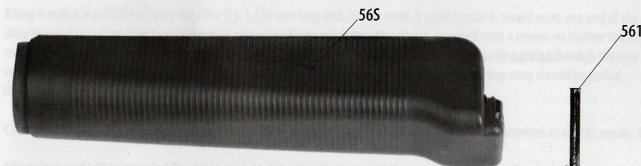
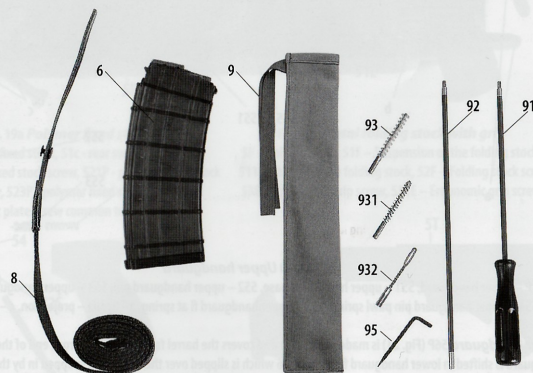

Fig. 21 Lower handguard
Fig. 22 Accessories
**Lower handguard 56P** (Fig. 21) is made of polymer and covers the barrel from below. The front end of the lower handguard is shifted in lower handguard front hoop 16 which is slipped over the barrel and snapped in by the gas adapter lug. The rear end of the lower barrel guard is fixed to the receiver by pin 561 (Fig. 22).